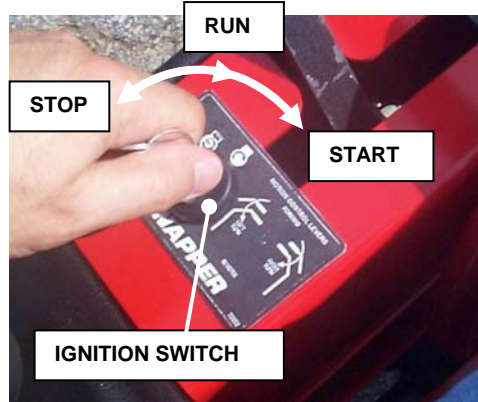

FIGURE 1.2
- 7. Turn key to "START" position and hold until engine starts. See Figure 1.2. NOTE: If engine does not start after 5 seconds, release key, wait 20 seconds, then attempt starting again. (If engine still fails to start, refer to the troubleshooting section of both mower and engine manuals.)
- 1. Stop engine by turning key to "STOP" position. See Figure 1.2.